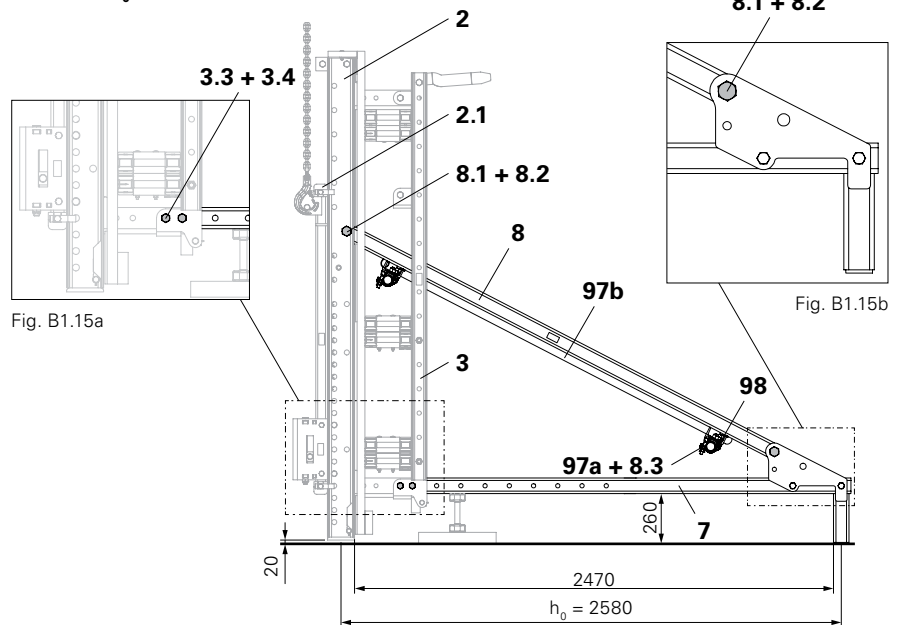

Fig. B1.15
8. Diagonally fix Scaffold Tubes Steel $\varnothing 48.3 \times 3.2$ (97b) to the horizontal scaffold tubes using Swivel Couplings DK 48/48 (98). (Fig. B1.15 or B1.16)